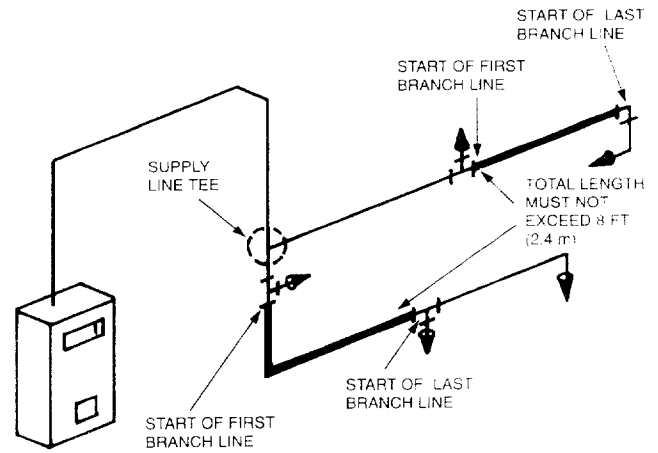

FIGURE 84
- 5. The pipe length between the start of the first branch line and the start of the last branch line must not exceed 8 ft. (2.4 m). When the supply line is split, the **combined length** of both legs of the supply line (start of first branch line to start of last branch line) must not exceed 8 ft. (2.4 m). See Figure 84.